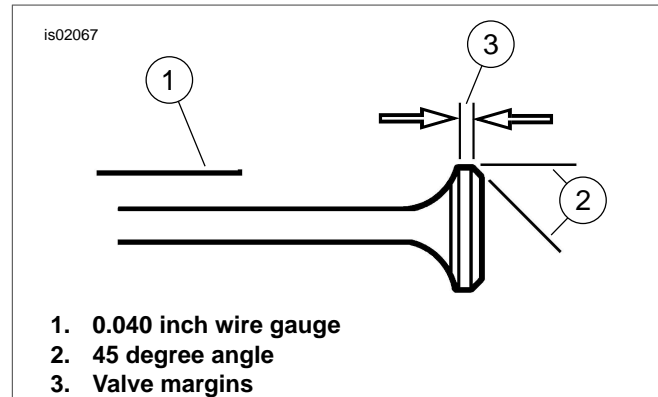

Figure 1. Beveling Valve Heads
See Figure 1. If it is necessary after inspection to grind the intake and exhaust valves in order to meet the 0.040 inch clearance between the two valve heads, the margins (3) must be measured as follows: 0.031 inch minimum margin on exhaust valves and 0.015 inch minimum margin on intake valves.
2. A 0.040 inch clearance is required between the two valve heads. Use a 0.040 inch wire gauge (1) to measure this distance. To adjust the clearance, grind the edges of the intake and exhaust valves at a 45° angle (2).